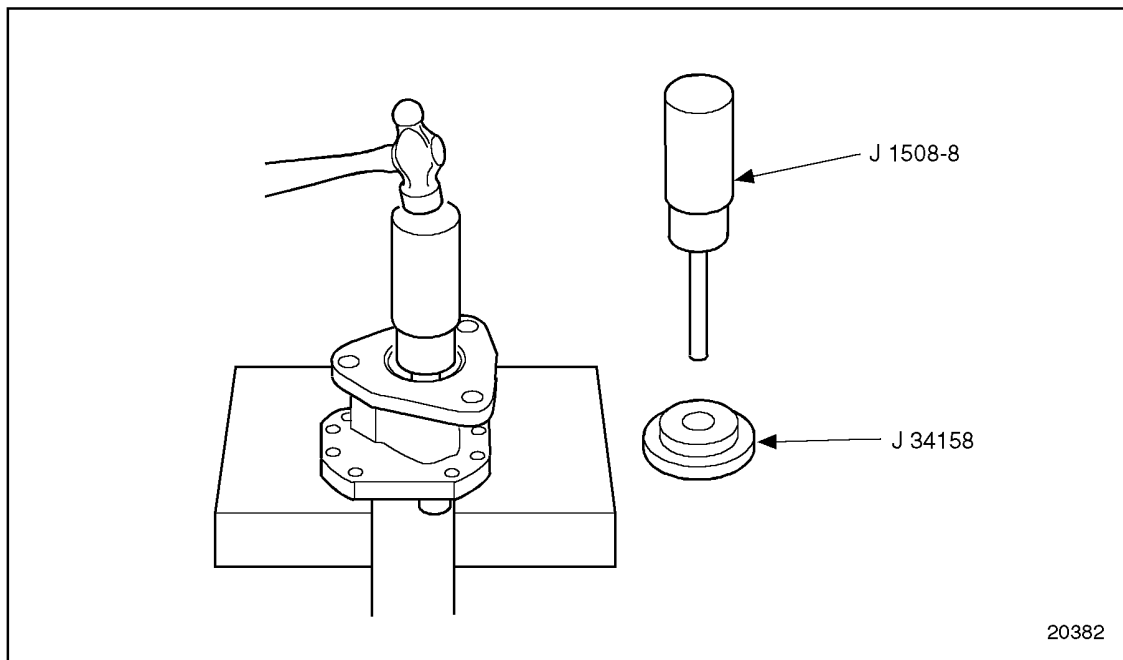

Figure 2-38 **Installing Outer Oil Seal**
5. Remove the installer and reverse the adaptor placing the narrow end against the installer handle. See Figure 2-38.